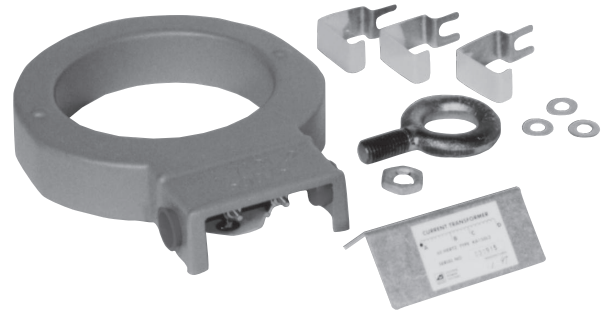

Figure 1. Multi-ratio, “Slip-On” CT kit
The slip-on, multi-ratio bushing current transformers are especially designed by Eaton for use with numerous Cooper Power series single-and three-phase distribution switchgear for load metering at the equipment location. The CT is available only as a kit for field installation. The kit consists of the epoxy-encapsulated, current-transformer assembly, cover assembly/nameplate, three clamps and washers for attaching the CT to the bushing clamping bolts of the switchgear unit, and an eyebolt lifting lug with a palnut, if applicable (Figure 1 and Table 1). An eyebolt and palnut are supplied with kits KA712L1S, KA712L3S, and KA712L5S for replacement of the standard fabricated lifting lug, to allow additional clearance for the CT on the head. Refer to Table 2 for the appropriate application of each kit.
6. Loosen the three bushing clamping bolts and attach the CT by slipping the slotted end of the clamp under the lockwasher while clipping the other end to the CT (Figure 1). Position the clamp so the top surface of the CT is at the level of the bushing clamps in order to maintain the BIL rating of the switch gear unit.